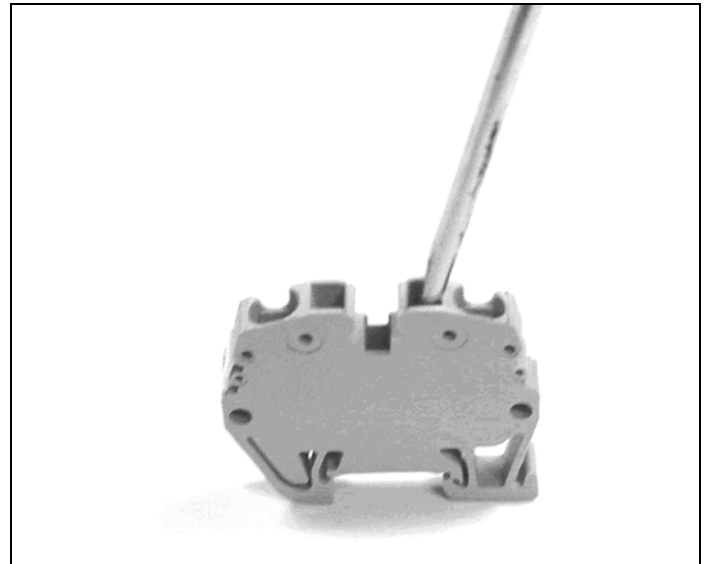

Figure 28. Screwdriver Inserted in the "Tool" Hole.
Step 2: Begin by inserting a small, flathead screwdriver into the square (tool) hole with the flat surface of the screwdriver against the back wall of the hole (see Figure 28). With a little bit of force, push the screwdriver in on a slight angle toward the center of the clamp. Be sure to slide it in until it clicks. You will then see the clamp open in the wire hole.